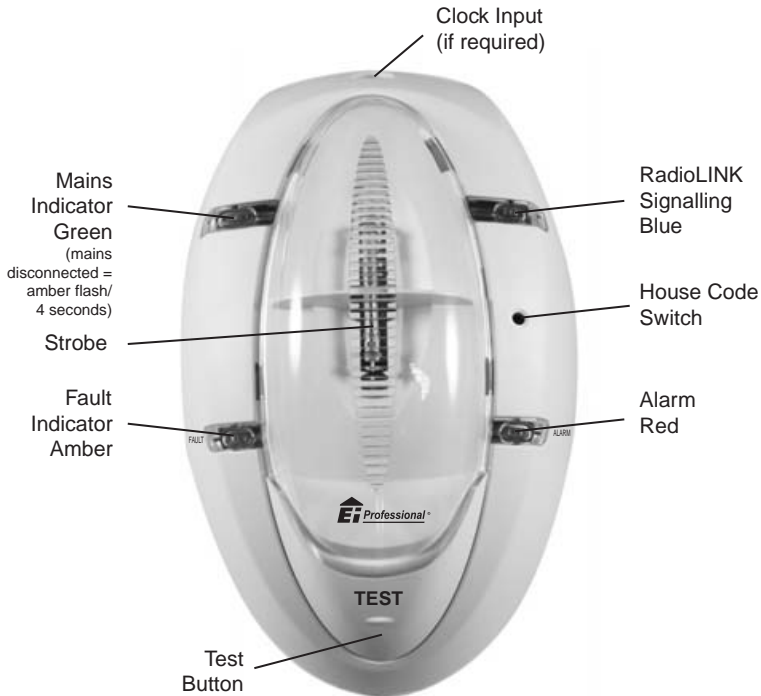

Figure 4
3.1.2 Press the House Code switch on all units – see individual instruction leaflets for switch locations. On the Strobe Module, the House Code switch is pressed by means of small screwdriver (or similar, diameter of top less than 3mm), through the access hole on the top of the unit – see figure 4.
Check the Strobe Module indicator lights as follows (see figure 4)
“Clock Input” Socket: (*not available without a vibration pad*). A suitable alarm clock signal (with a 5 to 24 Volts AC or DC output – electrically isolated from the mains supply) can be connected to this input socket with a 3.5mm mono jack plug. (see figure 4) When the alarm clock triggers, the vibration pad turns on continuously (i.e. it is not pulsed) to wake the person, but the internal strobe or auxiliary outputs are not activated. This lets the user know it is a wake-up call and not a fire. Therefore the user needs only one vibration pad under their pillow or mattress – rather than two, one for the Fire Alarm and one for the alarm clock.